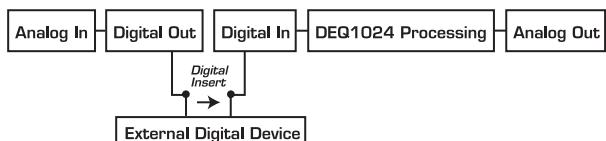

Fig. 2.5: Signal flow in PRE EQ mode
- 11 When you keep the *CONFIG* switch depressed for a few seconds, you can select the operating mode of your DEQ1024: *ANALOG* (green LED), *DIGITAL* (yellow LED), *PRE EQ* (yellow LED) or *POST EQ* (yellow LED). When in the *PRE EQ* or *POST EQ* mode, you can use the rear panel digital connectors as inserts, for example for an additional dynamics processor. When the unit is in *PRE EQ* mode, the insert point is located *pre EQ*; when the unit is in *POST EQ* mode, the insert point is located *post EQ* (see fig. 2.5 and 2.6).